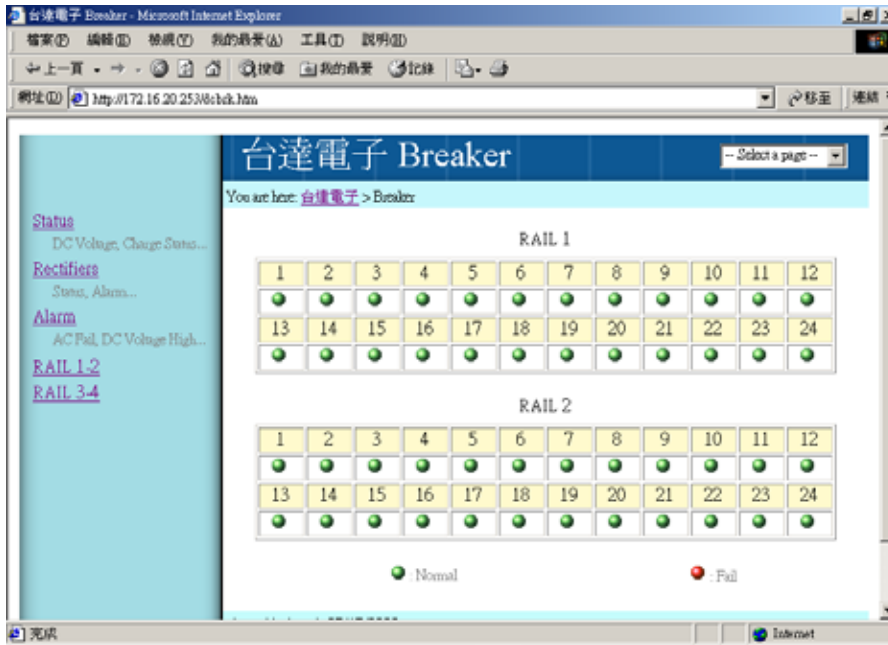

Fig6. Show information about Break.
- This page, Fig6, displays current data about rectifiers such as current, status (ON/OFF/Vacant) and alarm message (Normal/CL/Failure). In addition, allow users with password to change ON/OFF mode of rectifiers and do shutdown recovery.